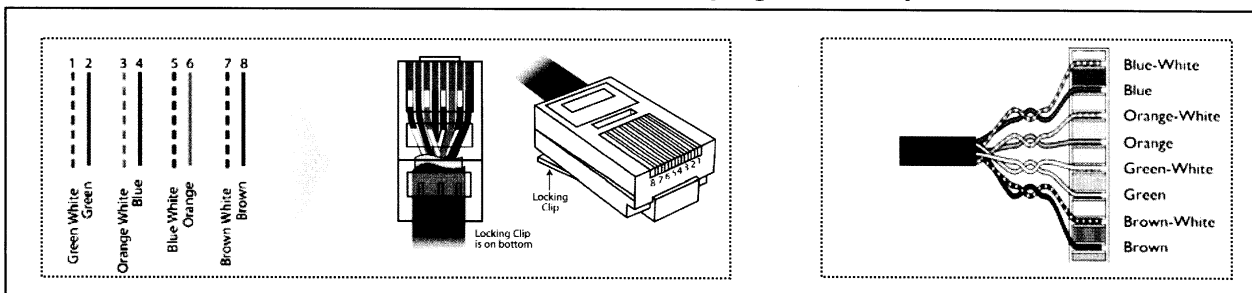
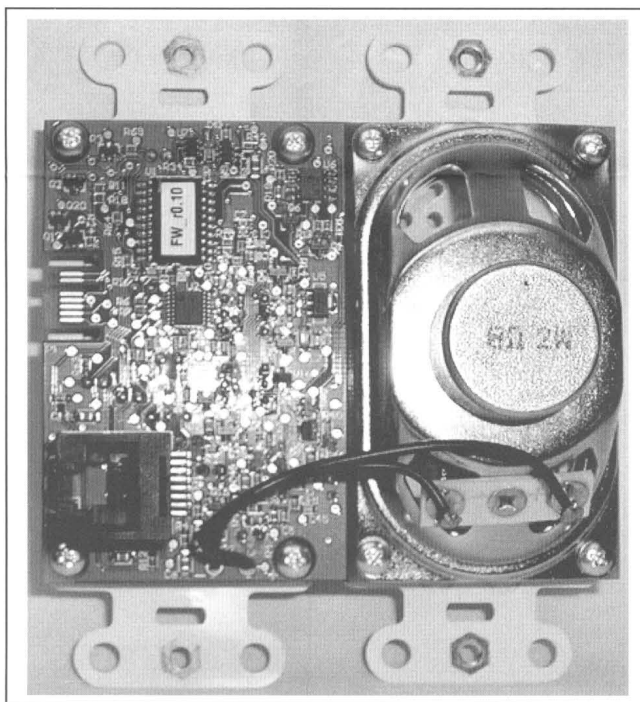

Figure 2
Figure 3
NOTE: All terminations can be correctly completed by following the T568A pin assignments. It is important that you accurately terminate using T568A at all locations. There are two different types of terminations you will encounter when installing the inQuire™ 1000 Intercom System: RJ45 plugs on the Modules, the Main Console and the Room Unit and 110 punchdown blocks on Door and Patio Units. Refer to **Figure 2** for correct T568A termination for both RJ45 plugs and 110 punchdown blocks.
1. As shown in **Figure 3**, label and terminate an RJ45 plug on the Cat 5 cable from the Intercom Module and attach it to the rear of the Room Unit. Follow the T568A standards described in **Figure 2**.